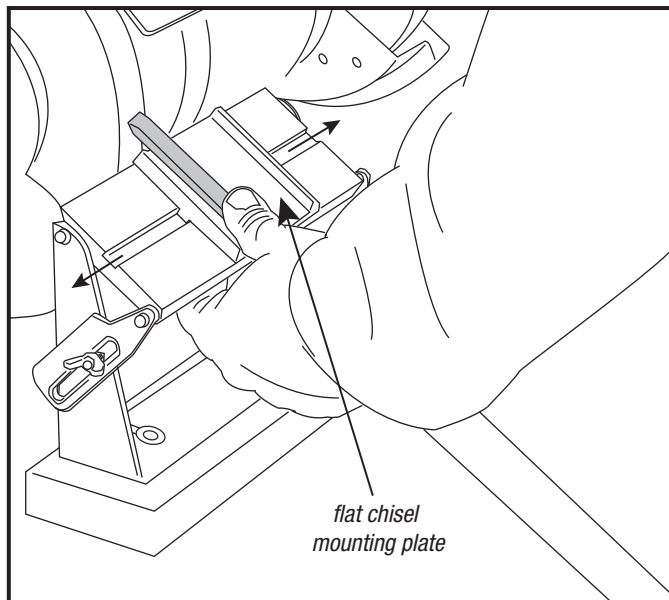

Fig. 2
- When using the flat plate, for cleaner blade edges, rest your thumb on top of the blade and grip the under side of the jig (Fig. 2). Apply an even pressure and sharpen as usual. If your tool can be sharpened on both sides, repeat this step.